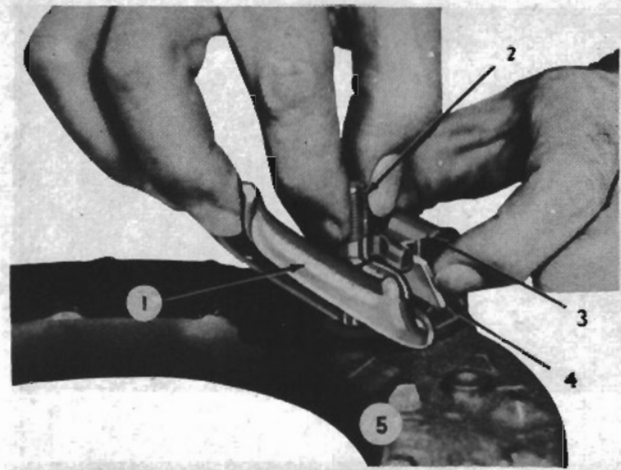

FIG. 5
Assemble the toggle lever, eyebolt, and pin. Insert the strut (4, Fig. 5) in the slots of the pressure plate lug (3), drop it slightly, and tilt the lower edge until it touches the vertical milled surface of the lug. Holding the end of the eyebolt (2) and the end of the lever (1) as close together as possible, insert the unthreaded end of the eyebolt into the hole of the pressure plate, with the short end of the lever under the hook of the pressure plate lug. Then slide the strut (3, Fig. 6) upward in the slots of the lug, lift it over the ridge on the short end of the toggle lever (1), and drop it in the groove of the lever. Assemble all three toggle levers in the same manner.